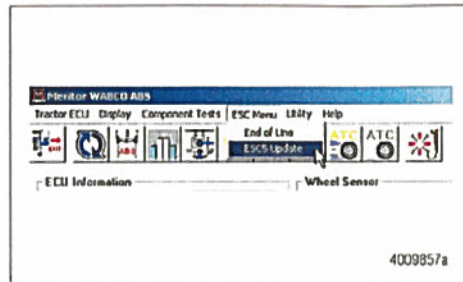

Figure 3
- On the main ECU screen, select from the top bar click on "ESC Menu". Figure 3.